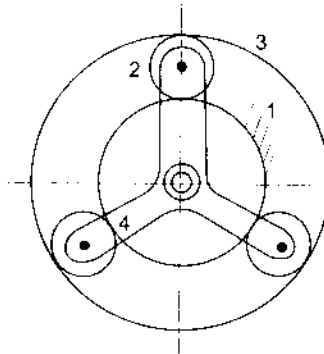

Fig.12.28 Planetary gear train
- (b) In the planetary gear train shown in Fig. 12.28, gear 1 has 50 teeth and gear 3 has 90 teeth. Determine the number of equally spaced planets that can be used without overlapping. The gears are standard. The formula used is to be derived, stating the assumptions made.